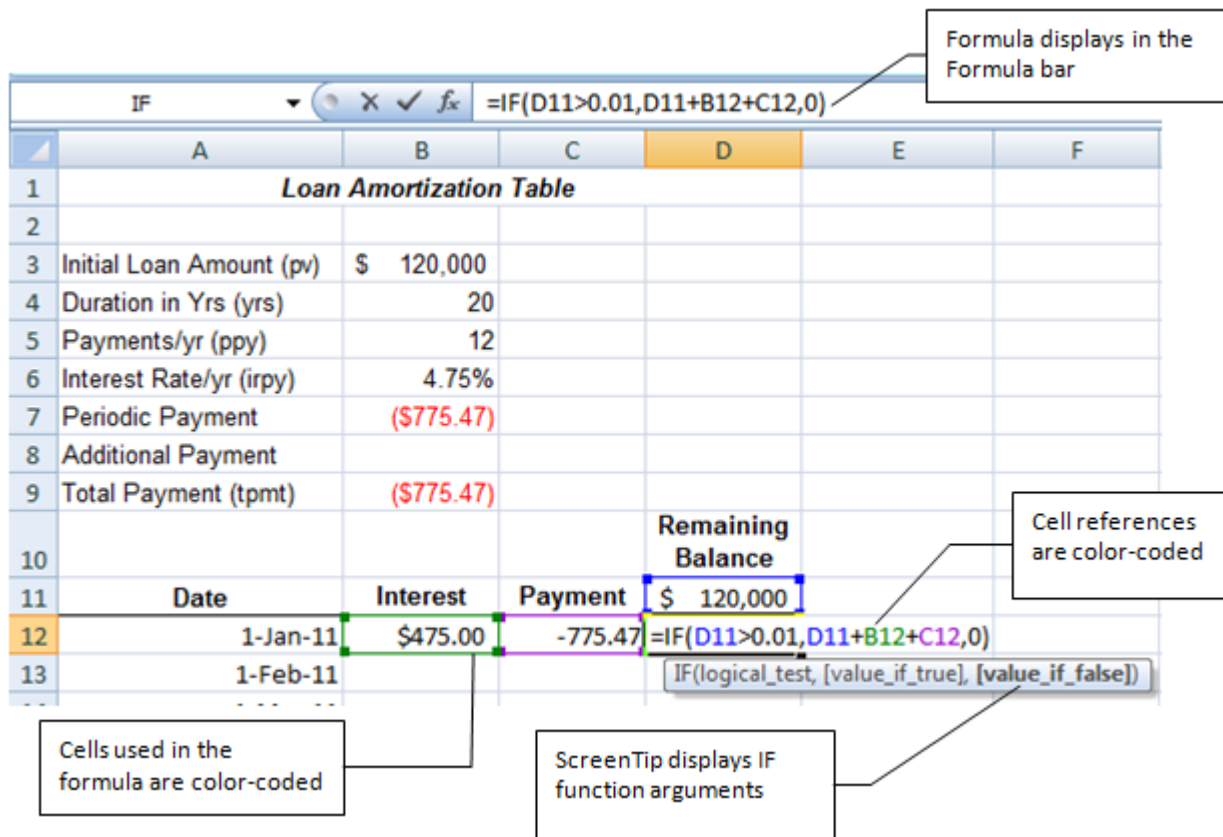

Figure 11.18. If there is a balance, then the remaining balance, interest, and loan payment are summed to create a new loan balance.
10. In cell D12, type **=IF(D11>0.01,D11+B12+C12,0)** and compare your screen with Figure 11.18.